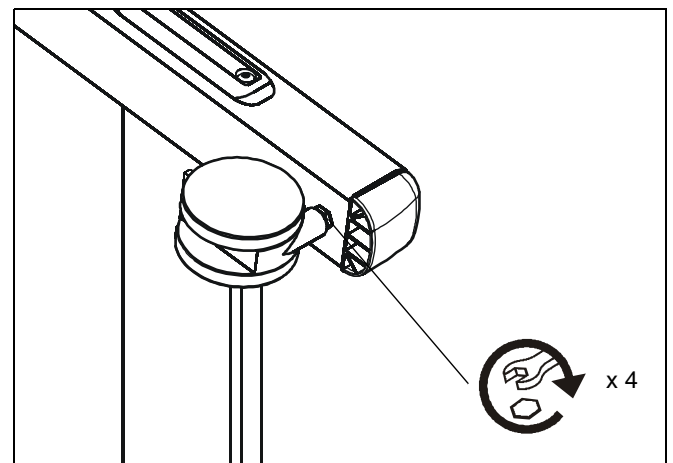

Figure 19
3. Check and tighten the hex nuts on the casters occasionally. (See Figure 19) These should be checked especially after use on uneven ground.